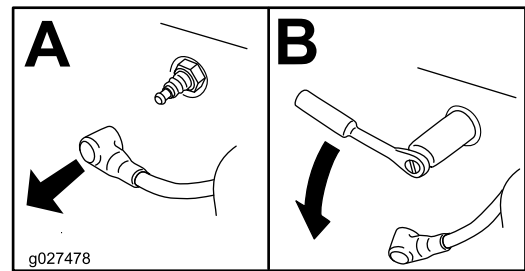

Figure 49
4. Remove the spark plug (Figure 49).